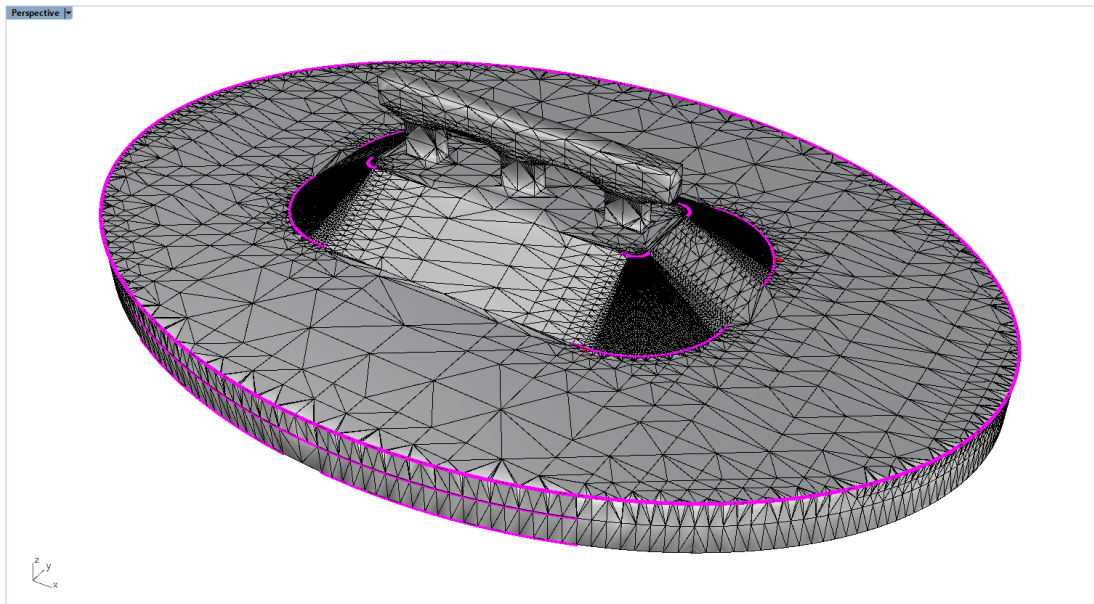
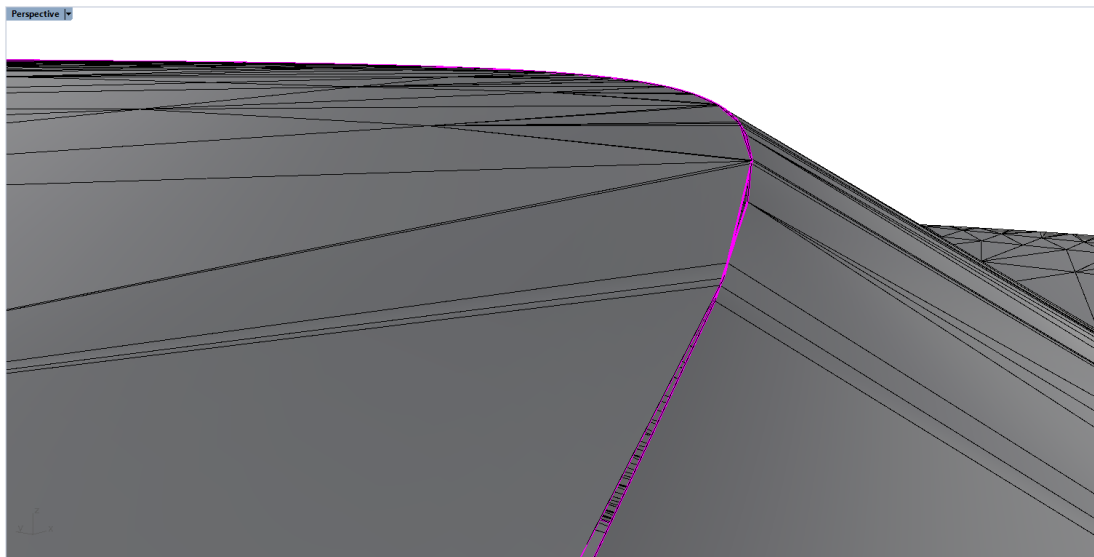

Figure 22: Naked edges (in pink) and clashing faces (red) after using *GInt* with *Tolerance* = 0.
Figure 23: Zoomed naked edges (in pink) after using *GInt* with *Tolerance* = 0. Compare with Figure 21.
8. To check if there are any gaps or non-conformal edges/faces left, select the output mesh and type **\_GHeal** or click on the  icon in the *Griddle* toolbar. Select the *ShowErrors* option, which will create two new layers, “NAKED\_EDGES” and “CLASHING\_FACES”, containing outlines of open mesh boundaries (e.g., internal holes) and non-conformal faces. The results show that there is a large number of gaps and some non-conformal faces (Figure 22 and Figure 23). This is because **GInt** *Tolerance* was set to 0 to intersect only those mesh faces that are in full contact. Naked edges can also be visualized with *Rhino*’s **\_ShowEdges** command.